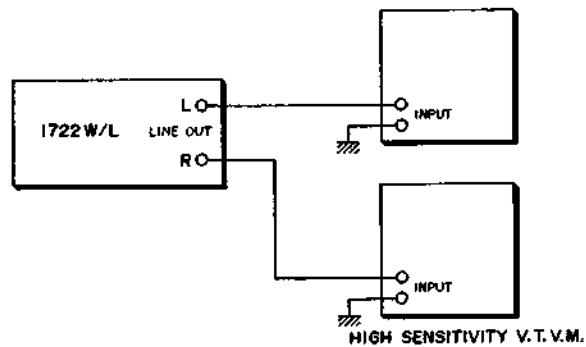

Fig. 18
- 2) Connect a High Sensitivity V.T.V.M. to the line output ~~input~~ as shown in Fig. 18 and adjust Screw (e) to obtain maximum V.T.V.M. indication at -10 dBm range.